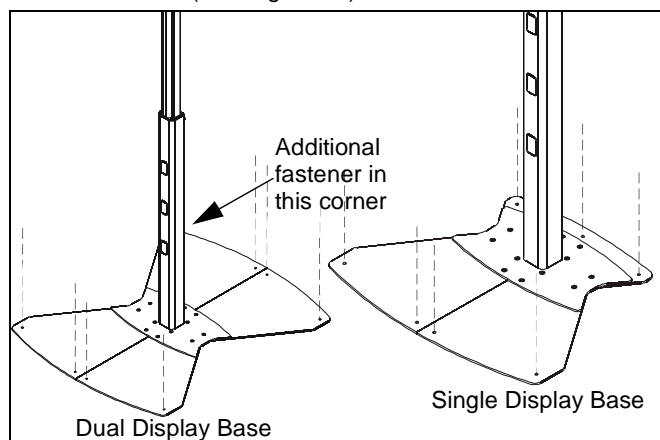

Figure 16
1. Attach the floor stand to the floor using 5/16" or 3/8" fasteners (not provided) which are appropriate for the floor's construction. (See Figure 16)